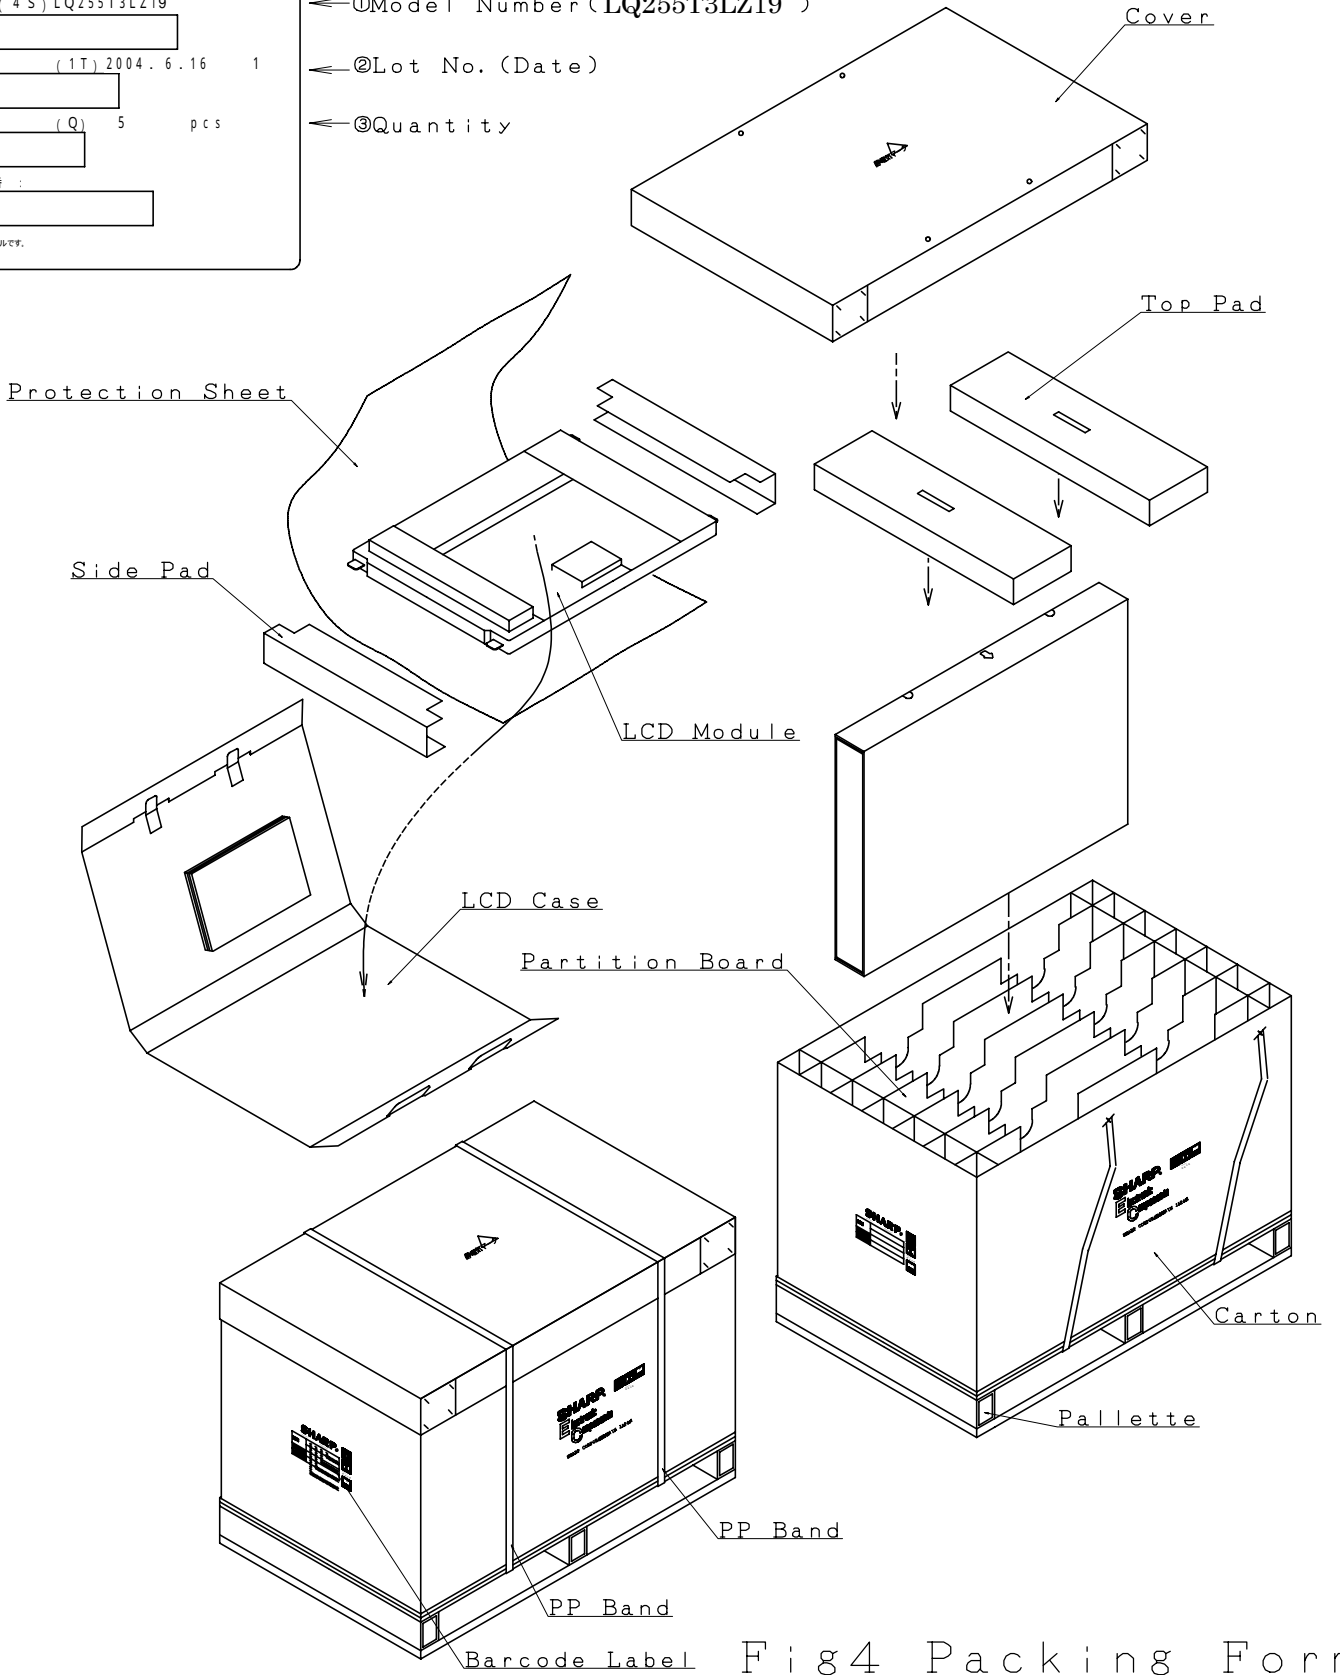

Fig4 Packing Form
- c) Carton size: 840 mm(W) x 630 mm(D) x 665mm(H)
- Packing form figures are shown in Fig.4